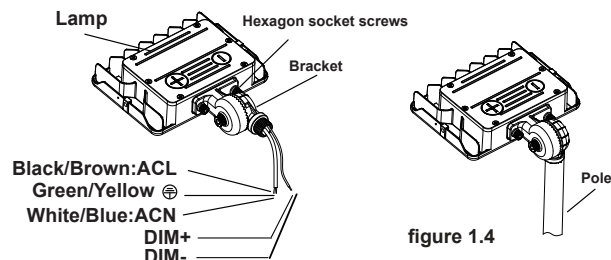

figure 1.4
Step 2: Connect the wires properly according to the right wiring requirements (pay attention to positive wire, negative wire, and ground wire), and then put the wires into lamp pole; (figure 1.4)